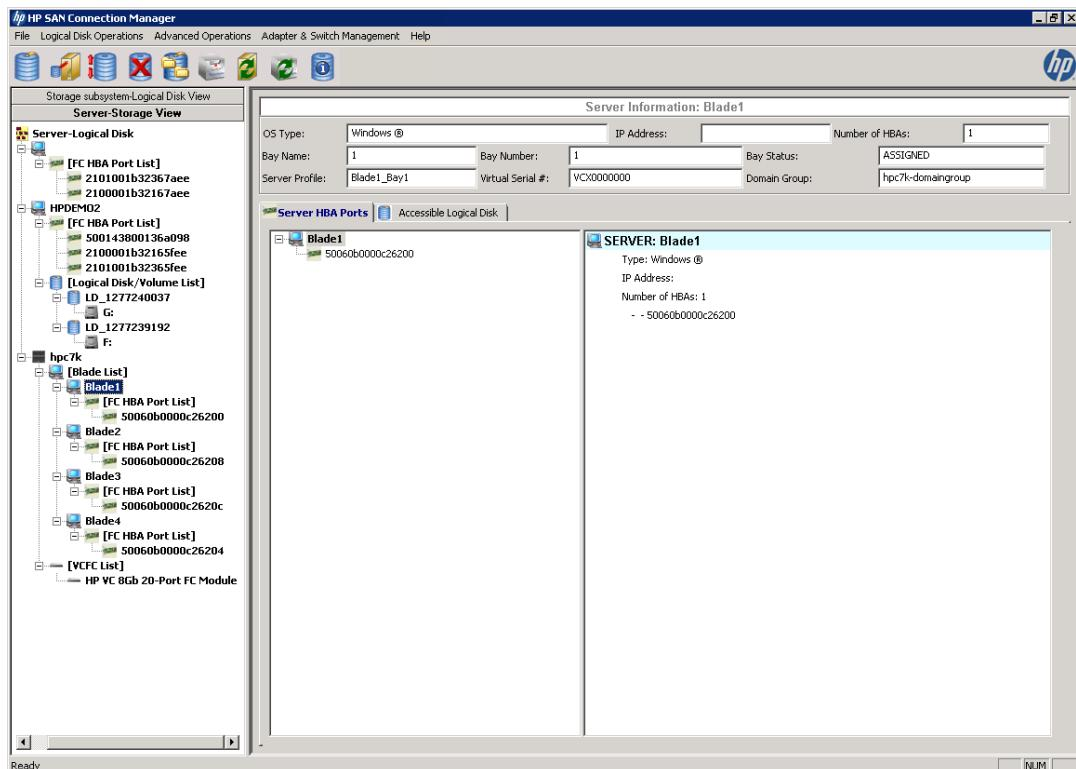

Figure 90 Server/Blade Information
- In the navigation pane under Server-Storage View, click the blade you want to view. The content pane (Figure 90) shows information for the selected blade.